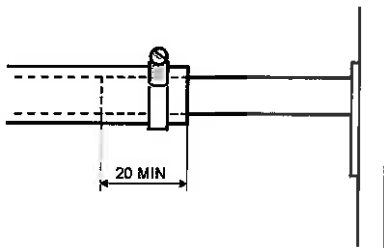
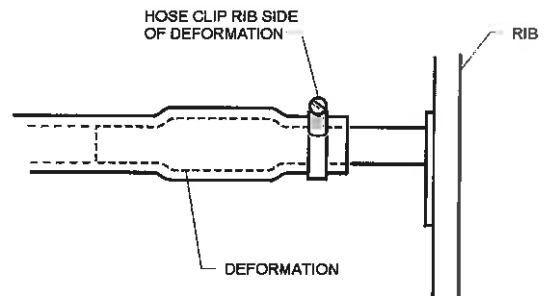

Figure 2a PRE MOD M500/M554
Figure 2b POST MOD M500/M554
Issue 2 Paragraphs 3 ii) Ref Figure 2a added
Figures 2a and 2b added
- ii) Vent tube hose clip is still in its correct position, tight and is correctly supporting the vent tube. Ref Figure 2a (Pre Mod M554) or Figure 2b (Post Mod M554).
Note if upon rectification, tube had to be pulled onto fittings to obtain correct position, then it is recommended that the root vent fitting is also checked to ensure that the dimensions on Figures 2a or 2b are met. If it is not possible to achieve the dimensions, then replace vent pipe (SAL Stores Code No. 126-36-054) ensuring vent line is installed as straight as possible.